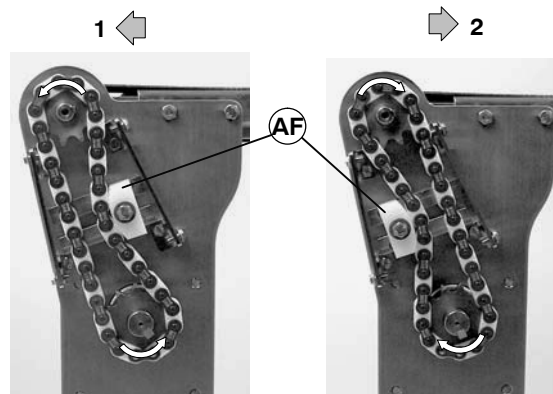

Figure 12
5. Depending on conveyor belt travel (direction 1 or 2 of Figure 12), locate timing chain tensioner (AF) as shown. Do not tighten tensioner screw.